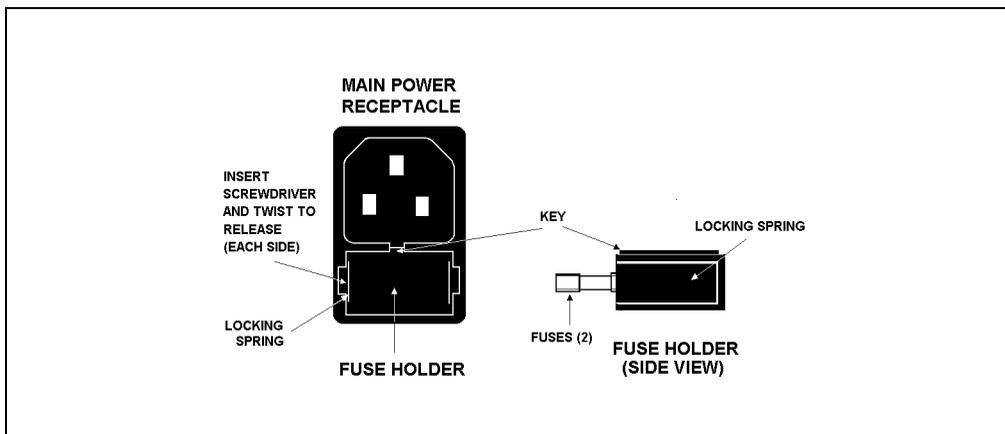

Figure 5-6. Main Power Fuse Holder
2. The fuse holder is part of the main power receptacle on the rear panel of the IC20 (see Figure 5-6). A recessed lock is located on each side of the fuse holder. Using a small screwdriver, push each lock toward the center to release it. The fuse holder pops out approximately 0.16 cm /16 in) when the locks release. When both locks are released, pull the fuse holder straight out of its compartment.